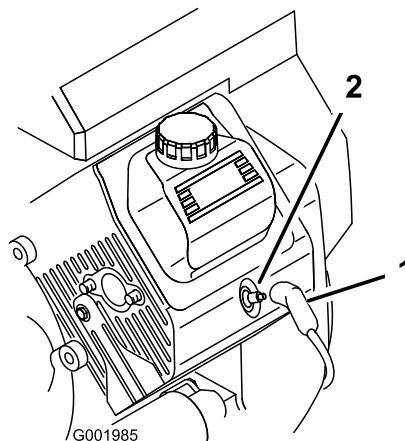

Figure 52
3. Pull the wires off the spark plugs (Figure 52).
3. Push the wires onto the spark plugs (Figure 52).